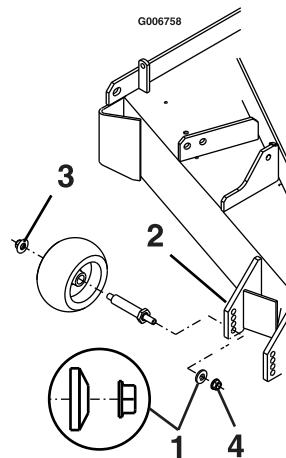

Figure 19
For LZAS-LP Units: Be sure the whizlock nuts are installed with the spring disc washer between the head of the nut and the mounting bracket (Figure 19).
- A. Torque the 3/8–16 whizlock nut to 30-35 ft-lb (41-47 N-m) (Figure 19).